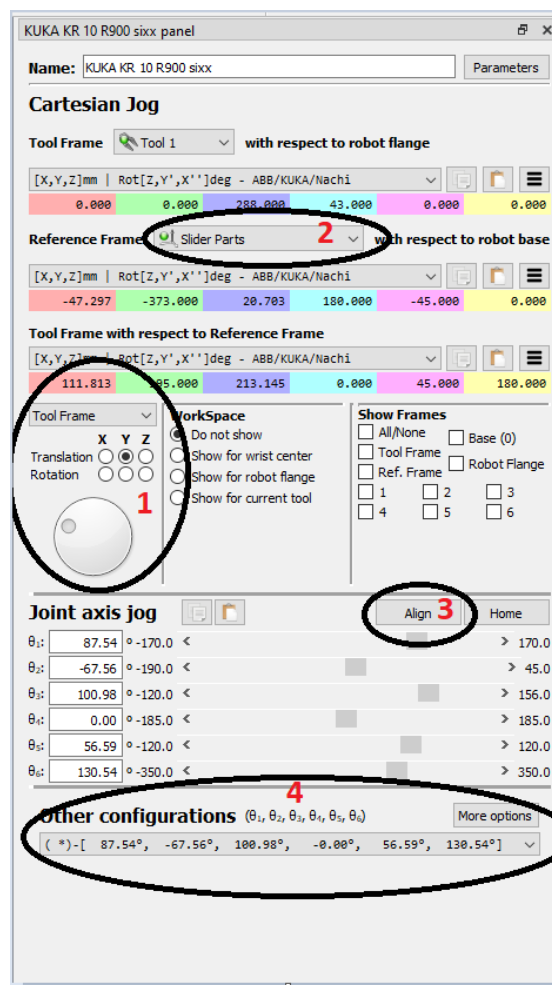

Figure 7: Panel window to move the robot.
- As shown in the video, you can rotate the robot wrist to logically pick the part. (See Figure 7, step 1)
- Choose the frame: slider parts. (See Figure 7, step 2)
- Press “Align”, and the program will precisely adjust the position for you. (See Figure 7, step 3)